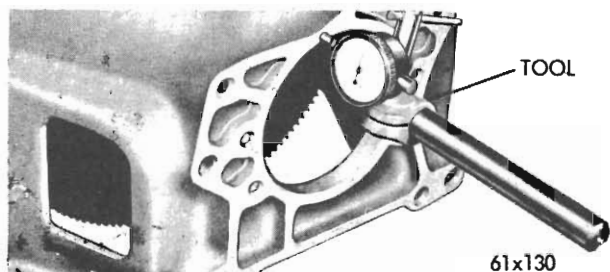

Fig. 14 - Checking clutch housing alignment (Tool E6C10)
(1) Re-locate dial indicator, as shown in Fig. 14. Rotate flywheel using tool. If the total indicator reading is greater than .006" note the amount of total runout and location of lowest indicator reading (i.e., the point where the indicator arm or follower is extended the furthest).
(2) To correct excessive runout, place correct thickness of shim stock between the clutch housing and engine block, or between the transmission and clutch housing. After re-checking face runout, tighten housing bolts to 50 lbs. ft. Install transmission.